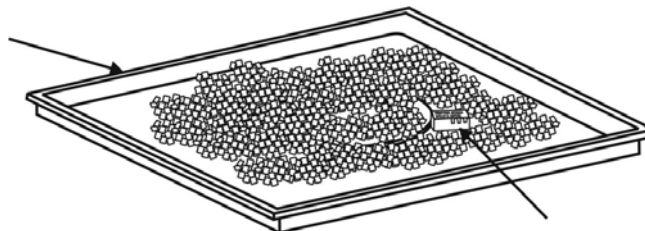

Figure 4
2. Pour all of the fire ices into the burner pan. Completely cover the burner tube with fire ices as shown in Figure 4.